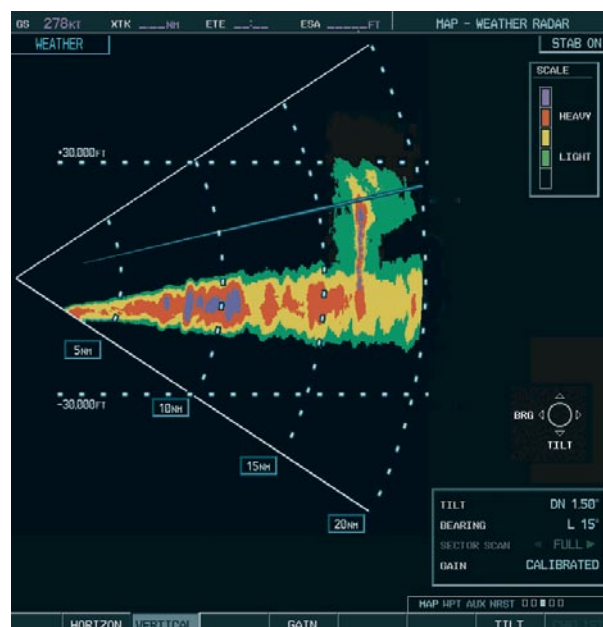

Figure 6-93 Vertical Scan Display
- 4) Select the **VERTICAL** Softkey. A vertical scan of the selected area is now displayed (Figure 6-93).